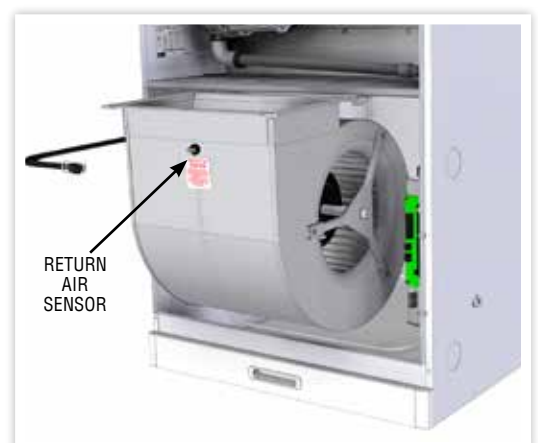

FIGURE 22.
16.9.3 Release the fan assembly securing screws, slide the fan assembly forwards on the runners and drop down, remove from the heater cabinet. Avoid damaging the fan blades. See Figure 22.